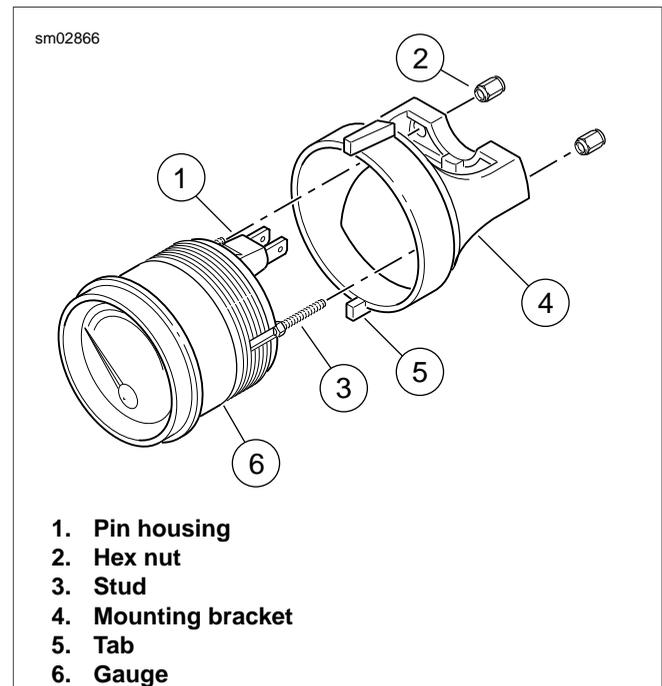

Figure 8-85. 2 Inch Diameter Gauges
To replace lamp, pull pin housing from gauge and then pull lamp from slot of pin housing. Install **new** lamp in slot and insert pin housing back into gauge. See Figure 8-85.
2. Slide mounting bracket over studs. Verify that tabs on top and bottom of bracket engage slots in inner fairing. See Figure 8-85.